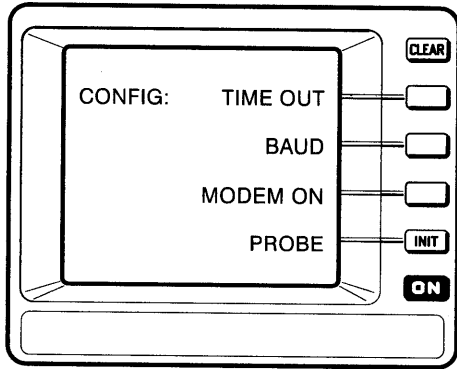

Figure 3-22: The Configuration Menu
- Step 2:** Press the menu button next to the **CONFIG** menu item to access the configuration menu. The display now appears as shown in Figure 3-22.